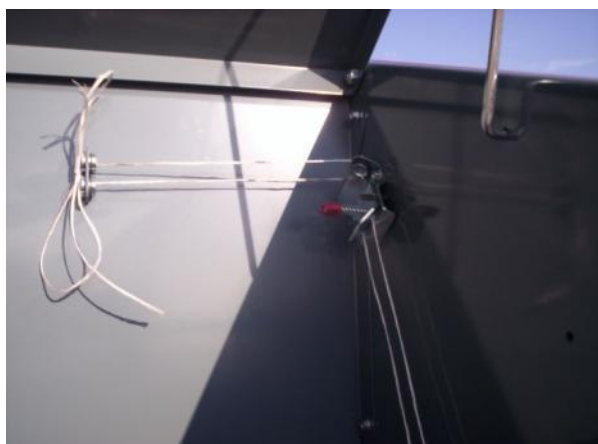

Fig.13- Twine brake
3. – Pass the twine through the drive-wire ring and, after the adjustable brake ( Fig 13). Screw the brake screw (3 Fig. 13) the twine goes in “pulling”.